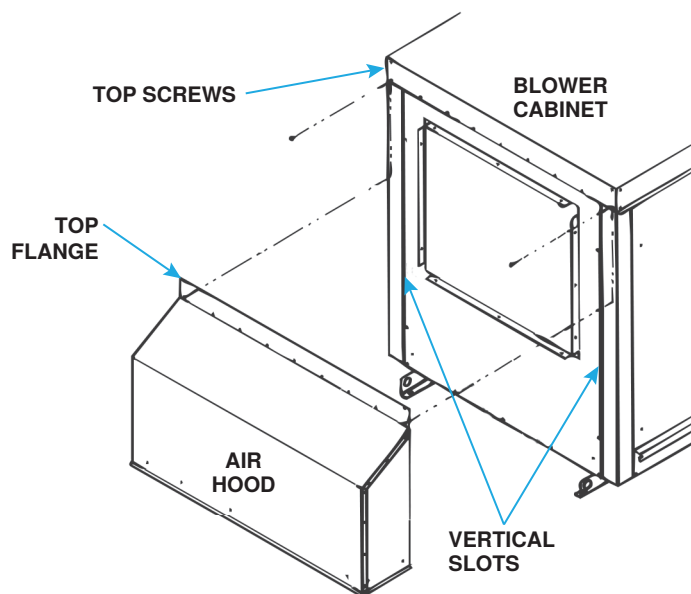

Figure 1. Air Hood Installation
1. Remove and save row of top screws (see Figure 1) that secure cabinet top on inlet air side of blower cabinet.
2. Slide air hood top flange (see Figure 1) beneath lip of cabinet top and insert air hood sides into vertical slots (see Figure 1) in blower cabinet. Ensure that top flange is between cabinet top and end panel.